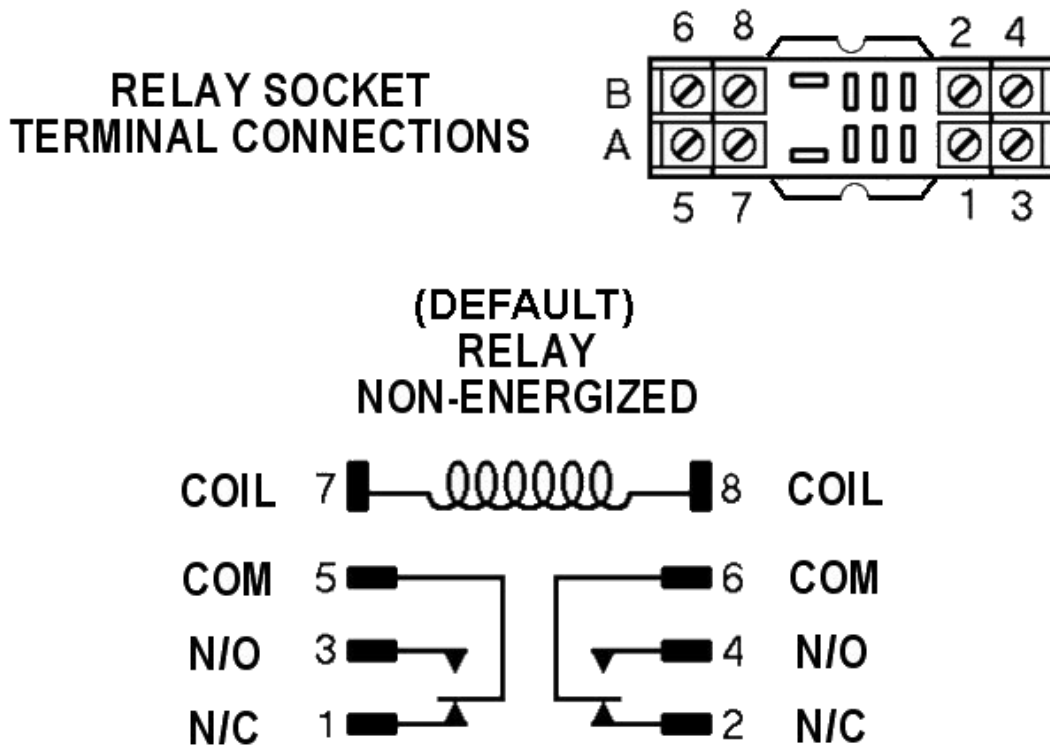

Figure 4-3: Relay Contact Arrangement for 2 or 3 Relays
**2 or 3 RELAYS:**        When 2 or 3 relays are included with the monitor, “Ice Cube” DPDT relays are used. Two of the relays are set for different alarm conditions and the optional third relay is a Fault relay. The contacts are rated for 10Amps@240VAC resistive. For relay contact arrangement, see Figure 4-3.
The default relay programming configuration that is shipped is de-energized in the non-alarm state. See 5.1.2 ALARM RELAY PROGRAMMING The Figure 4-3 drawing above shows the schematic for the de-energized relay state. Note that N/O or normally open define the contact state for a specific relay pin or pins when the coil is not energized. N/C or normally closed also define the contact state for a specific relay pin or pins when the relay coil is not energized.